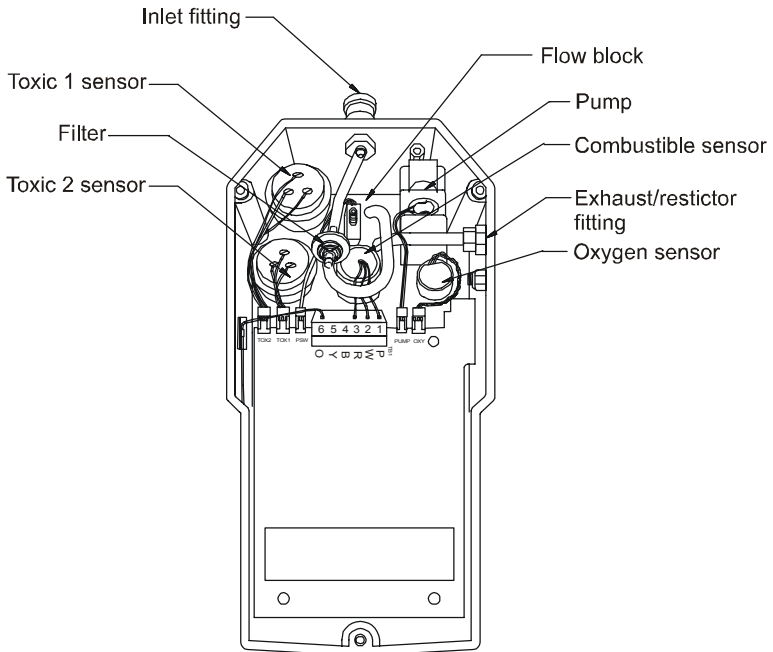

Figure 6-2 Innova Series Sensor Locations and Connection Assignments
3. Locate the sensor you want to replace in the flow block, see Figure 6-2.
Figure 6-2 illustrate sensor assignments for the standard Innova. The sensor assignment for your Innova may be different depending on the Innova model you are using. For models that have less than four sensors, empty sensor cavities are filled with sensor plugs.
2. Locate the pump in the flow block, see Figure 6-2.
2. Locate the internal filter, see Figure 6-2. It is connected to the inlet fitting by a small polyurethane tube.